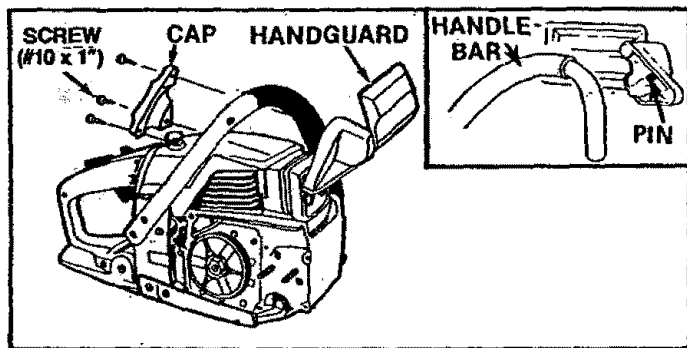

Figure 6
1. Align the Handguard and Handguard Cap around the handlebar as shown in Figure 6.
2. Fit the mounting pin on the Handguard into the hole in the handlebar. Figure 6.